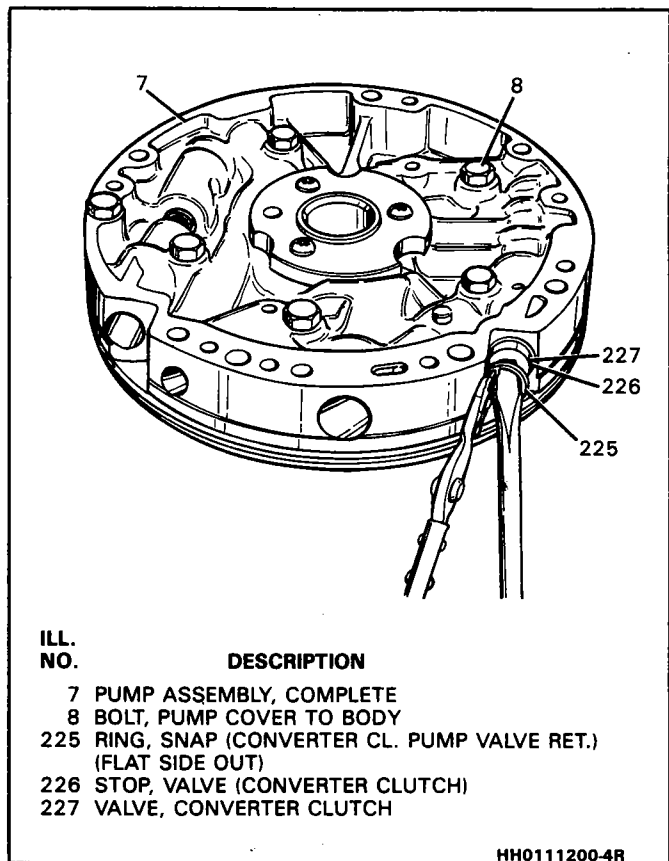

Figure 99 Removing Converter Clutch Valve Train
- pump guide rings (212)
- pump vanes (215)
- pump rotor (214)
- pump guide (213)
- slide (206)
- slide seal (211)
- seal support (210)
- pivot slide pin (208) and spring (207)
- slide seal ring (204) and slide back up seal (205)
**Disassemble (Figures 99 and 100)**
- remove retaining ring (225)
- stop valve (226), converter clutch valve (227), and (2) converter clutch valve springs (228/229)
2. Pressure relief ball (231)